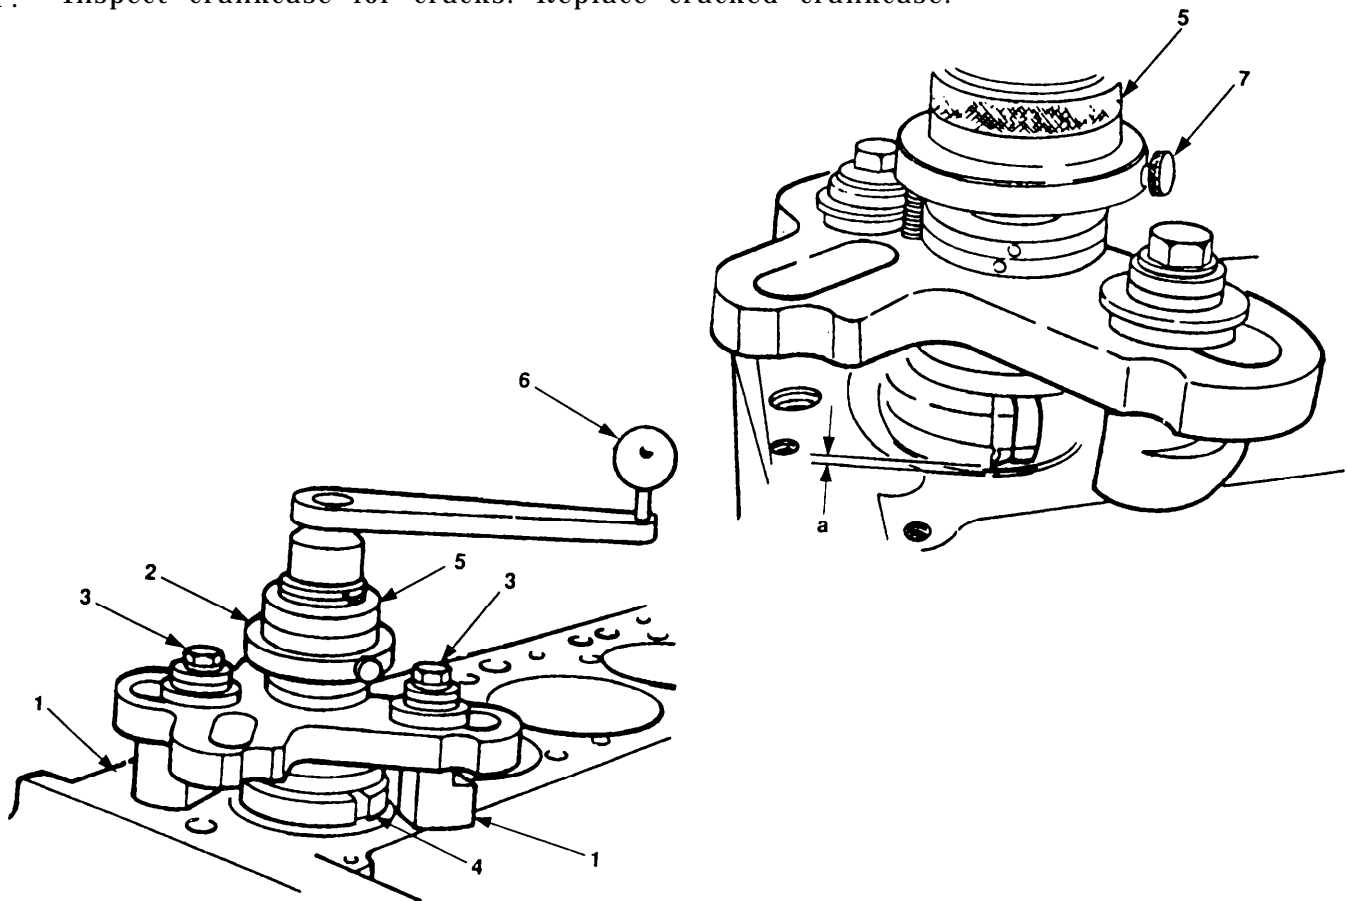

Figure 6-13. Cylinder Lining Rework.
- (1) Clean seating area.
- (2) Place support bracket (figure 6-13, 1) in position, mount turning fixture (2), and tighten retaining bolts (3) in such a manner that turning fixture is still movable.
- (3) Center refacing device and tighten bolts (3).
- (5) By means of knurled nut (5), turn spindle (6) of turning device clockwise and adjust tool holder (4) to face to be reworked.
- (6) Move tool holder (4) towards middle of bore.
- (7) Using knurled nut (5) set tool over and slightly beyond distance "a" to permit satisfactory refacing as shown in figure 6-13.